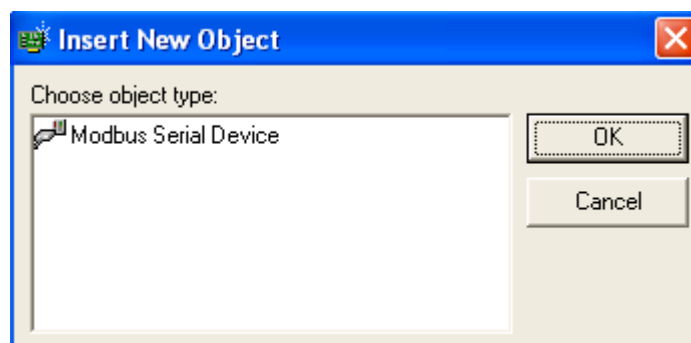

Figure 6 - Insert New Object
- The **Insert New Object** window (Figure 6) appears.